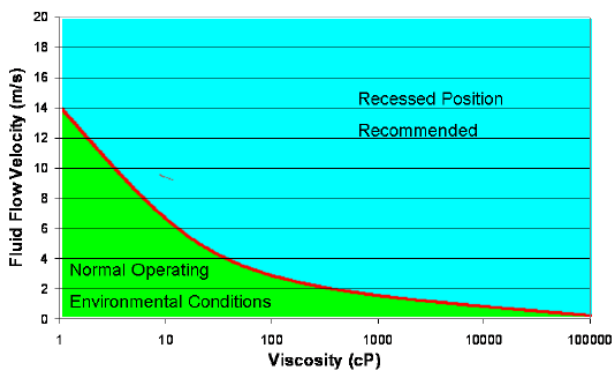

Figure 7.9 : Mounting position of the FPS2800 in function on oil flow velocity and viscosity - Transient/Starting environment
- Mounting system needs to be adapted regarding oil viscosity and velocity parameters. (See figure 7.9)